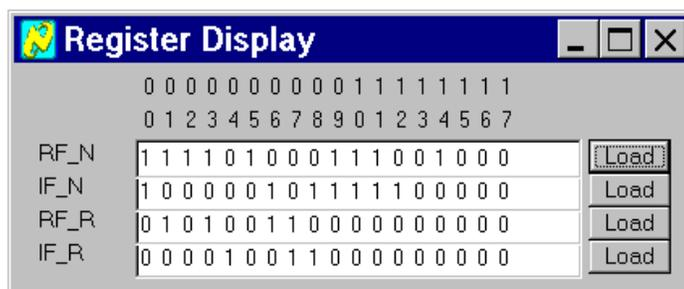

Figure 8: **Register Display** dialog box
- **View - Registers** opens the **Register Display** dialog box. Depending on the user's selected device type, the number and type of registers displayed will vary. For example, Figure 8 shows four registers for LMX1600 dual PLL (N and R registers). The **Register Display** dialog box allows the user to change each register content (divider counter values and program mode bits) bit-by-bit.